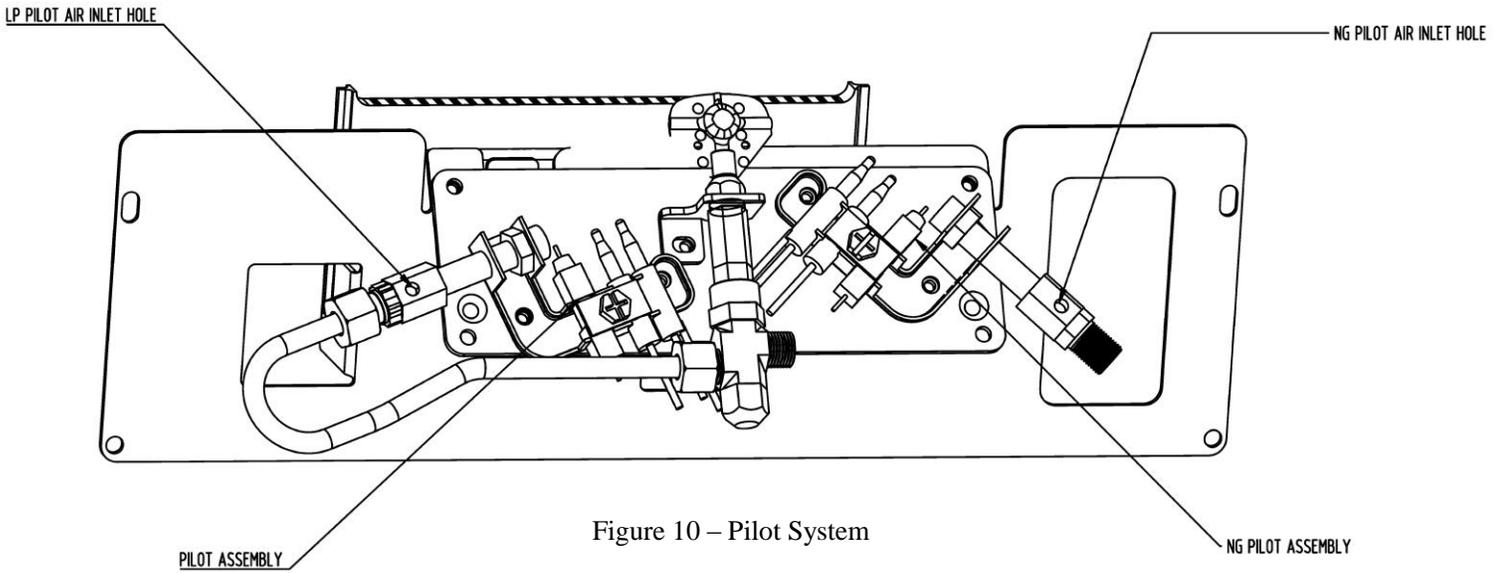
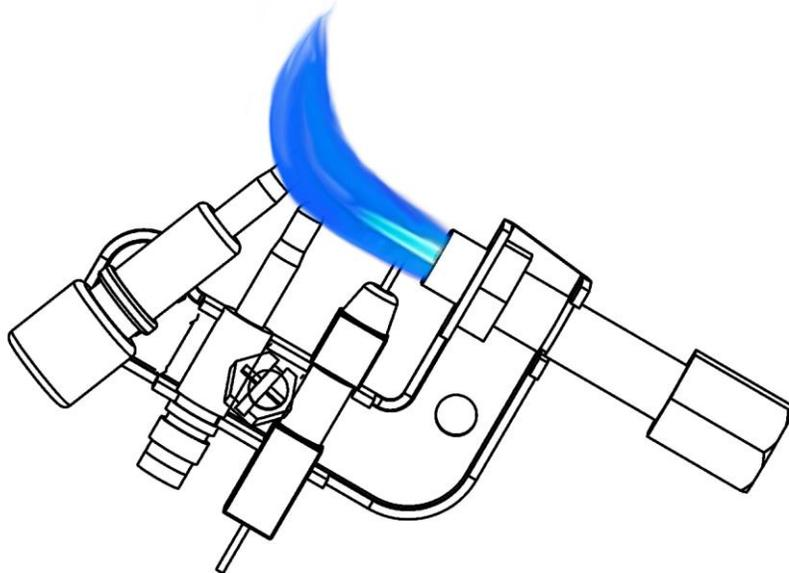

Figure 10 – Pilot System
Figure 11 – Pilot Blue Flame
Two pilot burners with ODS function for NAT and LP gas respectively are installed on burners two sides separately as shown in Fig. 10. The normal ODS pilot flame should have a correct pattern as shown in Fig. 11 in normal operation with exception during ignition stage.
3. Blow air through the ports/slots and holes in the burner. Also clean the pilot assembly. A yellow tip on the pilot flame indicates dust and dirt in the pilot assembly. There is a small pilot air inlet hole about two inches from where the pilot flame comes out of the pilot assembly (see Figure 11). With the unit off, lightly blow air through the air inlet hole. You may blow through a drinking straw if compressed air is not available.